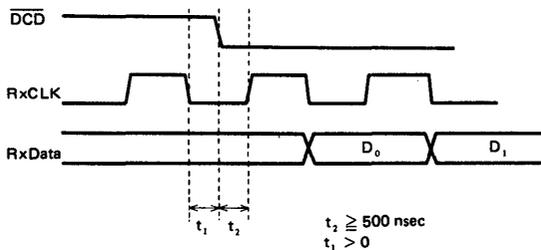

Figure 14 \overline{DCD} Input Timing in External Sync Mode
- (1) \overline{DCD} and RxCLK should meet the relation shown in Fig. 14.